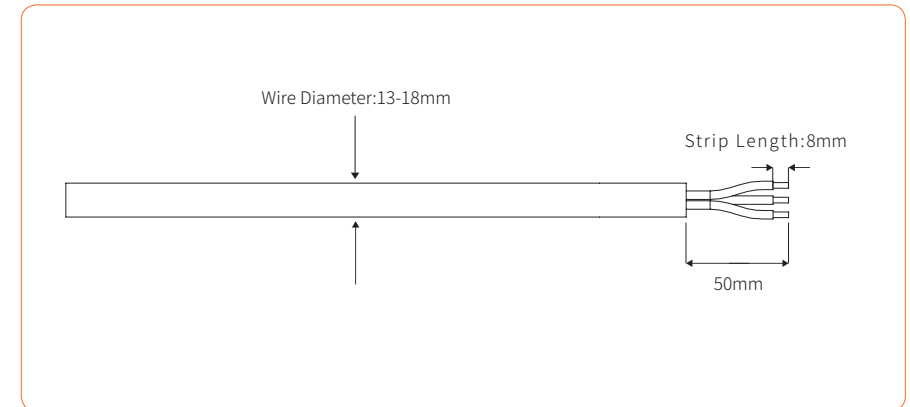

Figure 4-21
② According to the table above, select an appropriate cable, peel the insulation sleeve of AC cable off for 50mm, and peel off the end of L / PE / N wires for 8mm, as shown in Figure 4-21: